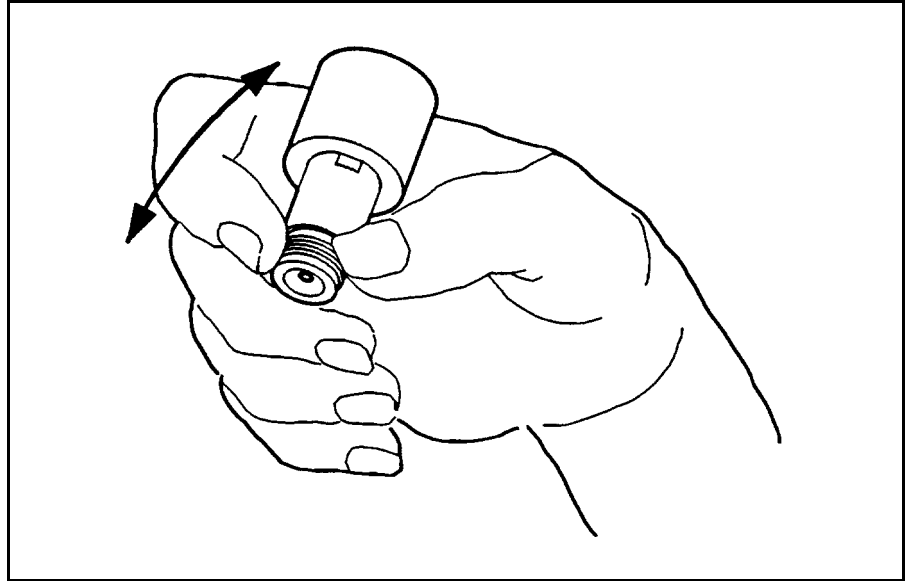

Figure 2-8. Freeing a Broken Contact Finger
- b. If you can see the broken fingers inside the inner contact, turn the device upside down and gently tap on it (see Figure 2-8).